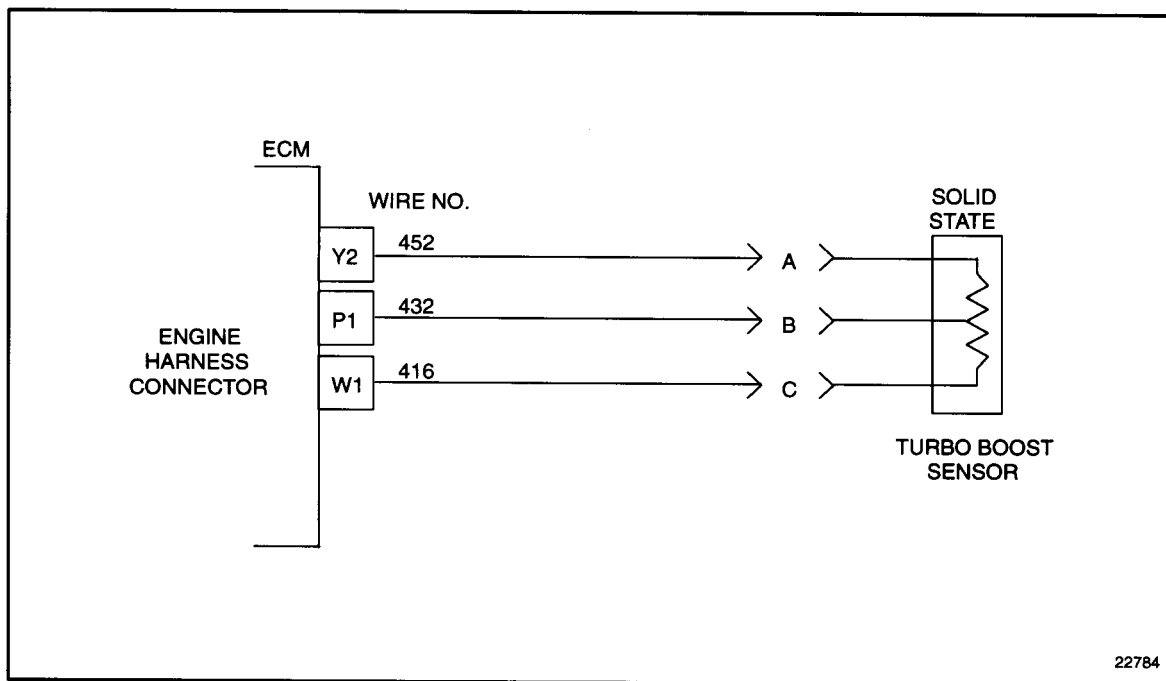

Figure 34-5 5-Way ECM Power Connector
3. Install a jumper wire between pins A and C of the TBS harness connector. See Figure 34-5.